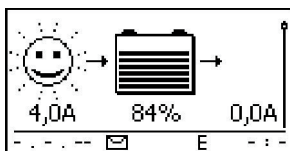
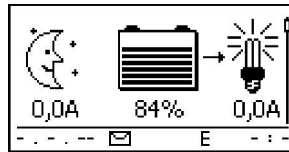

Fig. 13 Display with sunshine after connecting the solar module (possibly delayed)
Fig. 14 Display without sunshine after connecting the solar module
3. Remove covers from the solar module and, if present, switch on the DC load circuit breaker. The display shows Fig. 13 or Fig. 14.
4. If Fig. 13/Fig. 14 is not displayed, check the installation and if necessary correct the error on the basis of section 15.